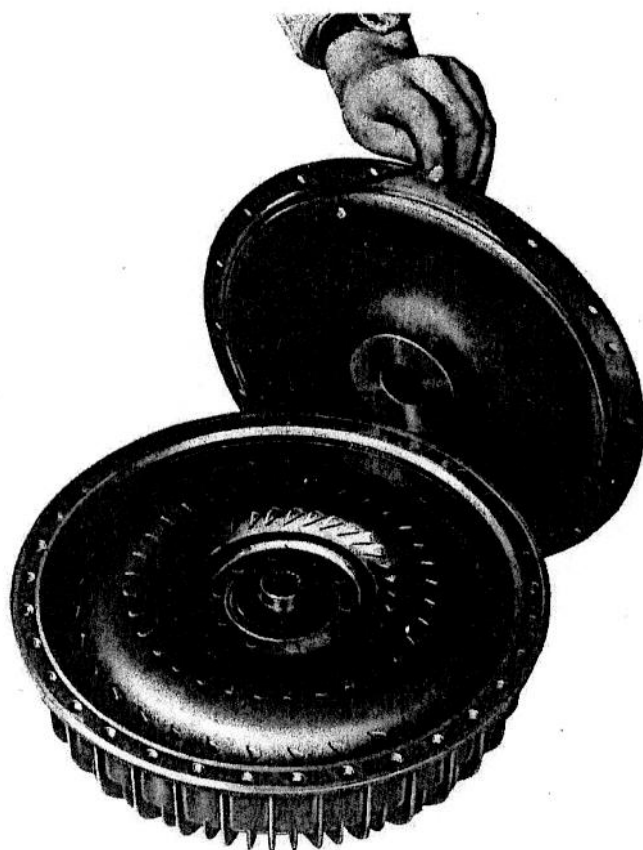

FIG. 14
6. (Fig. 14) Fit a new seal onto the cover plate and place the cover on the impeller assembly, ensuring that the alignment marks correspond.